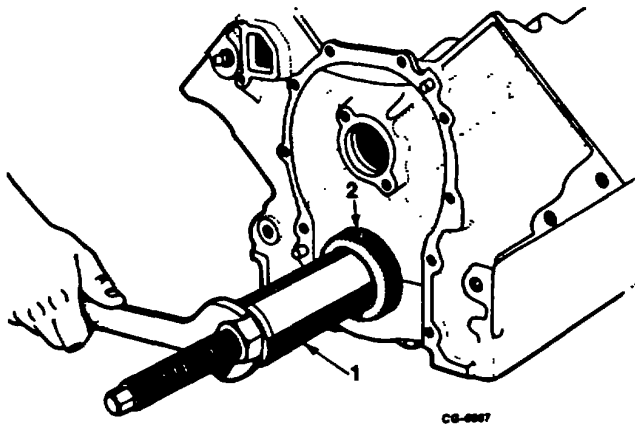

Figure 131. Installing Crankshaft Gear
- 13. Position gear key in keyway of crankshaft. Lubricate inside diameter of crankshaft gear with a commercial press-fit lubricant. Install crankshaft gear using installer tool set SE-1900 (Figure 131).